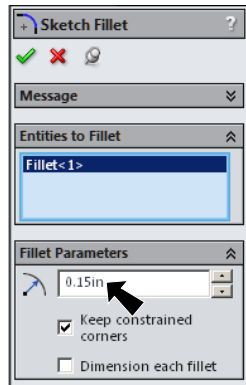

Fig. 5
Step 2. In the Sketch Fillet Property Manager set: under Fillet Parameters, Fig. 5